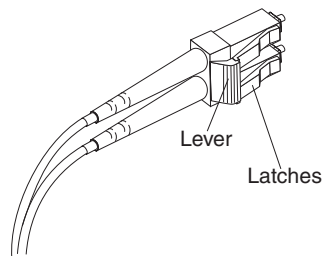

Figure 26. LC-LC Fibre Channel cable lever and latches
1. On the end of the cable that connects into the LC connector end of the LC-SC cable adapter, press down and hold the lever to release the latches. Figure 26 shows the location of the lever and latches.